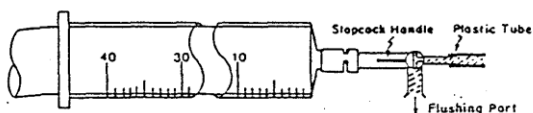

FIG. 1 Stopcock with Two Open Ports
3. Attach free end of tubing to end nipple of syringe (Fig. 1) and flush tubing.